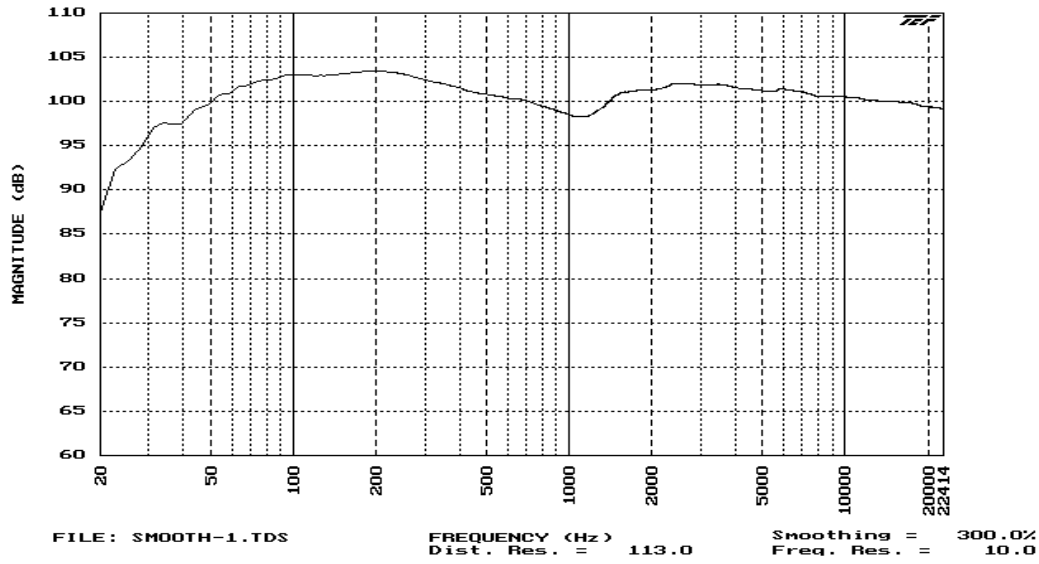

Figure 7. 300% (3 Octave) Smoothing
**Figure 7** shows that the insanity of smoothing can be taken to any length to make a curve look as flat as the tester would like.